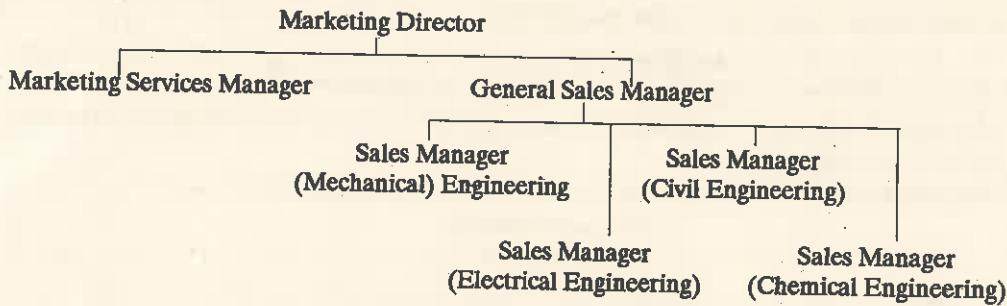
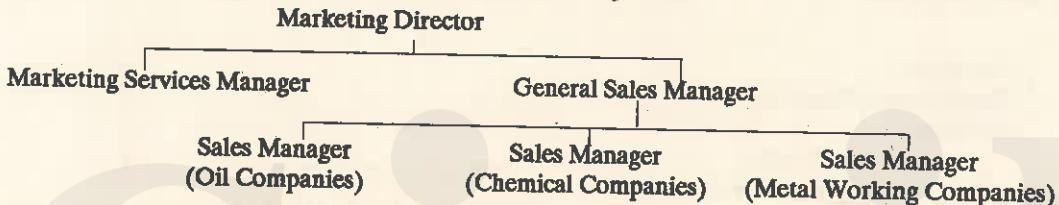

Fig. 31.4. End use sales organization.
Fig. 31.5. Customer class sales organisation.
- Fig. 31.4 shows the end use sales organization and Fig. 31.5 the customer class sales organization.